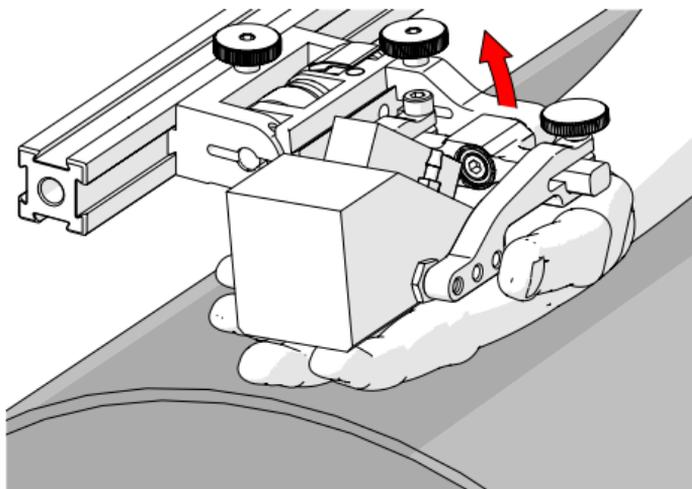

Fig. 96 - Lift to latched position
1. Ensure probe holder is in the latched, upper position (Fig. 96). If the probe holder is already latched, it will only move within the slip joint adjustment range and have no spring tension.
1. Ensure the probe holder is in the upright latched position (Fig. 96).